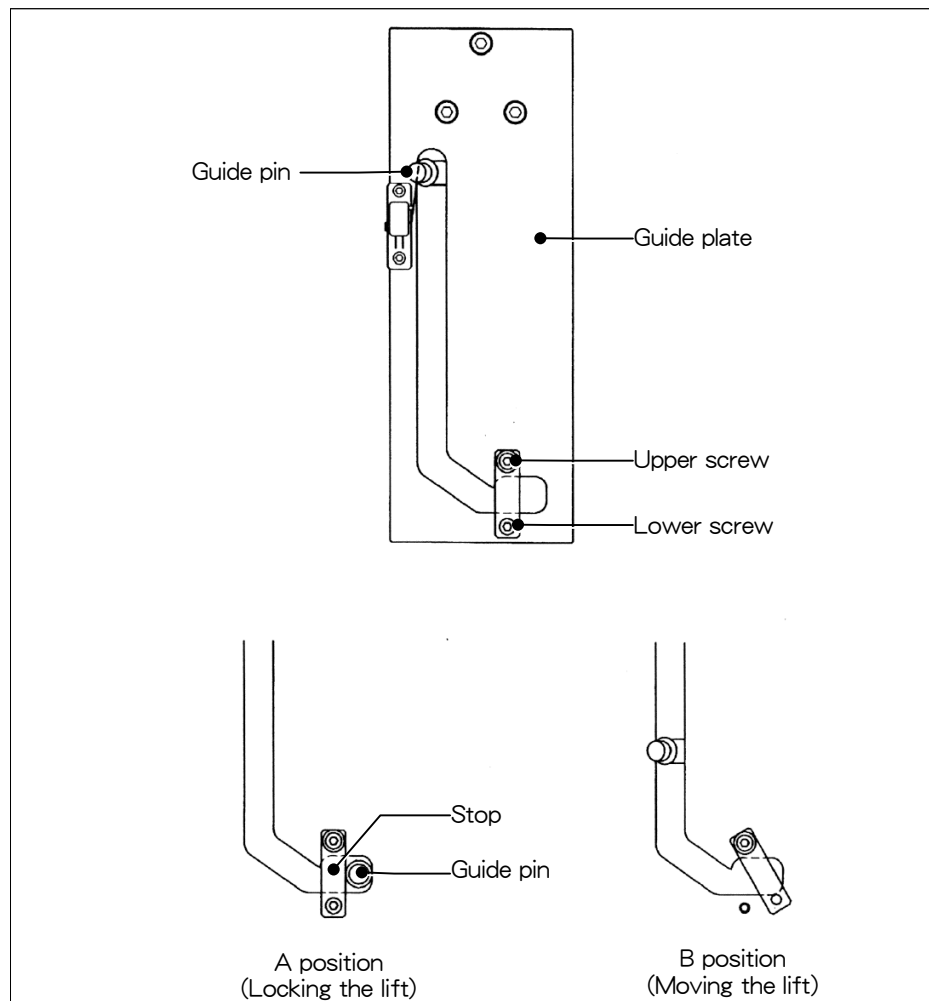

Fig. 6.5 Stop position on the lift
4. Make sure that the stop on the lift is in the A position (Fig. 6.5).
4. Remove the lower screw that fastens the stop; then move the electron gun to the right until it stops. Put the screw back on where it was, and place the stop in the B position (Fig. 6.5).